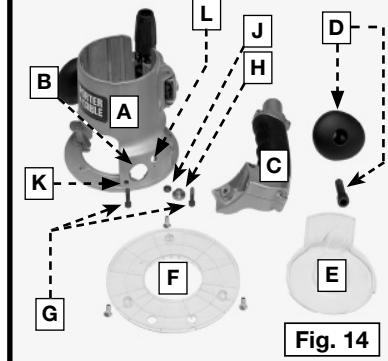

Fig. 14
GRIPVAC™ PARTS (FIG. 14)
2. Remove the plastic plug from the dust port (B) Fig. 14.
5. Insert a hex screw (G) Fig. 14 through the handle into the hole (K). From inside the base housing, place a shoulder washer (H) Fig. 14 and a hex nut (J) on the screw. Tighten the nut loosely.
6. From inside the base housing, insert the second screw (G) Fig. 14 into the hole (11) and screw it into the threaded hole of the GripVac™ handle.
7. Turn the router base upside down and place the dust deflector (E) Figs. 14 and 18 into the bottom of the router base by aligning the three plastic tabs on the deflector with the three recesses in the base. Align the extended part of the deflector with the GripVac™ handle. The deflector will be flush with bottom of router base.